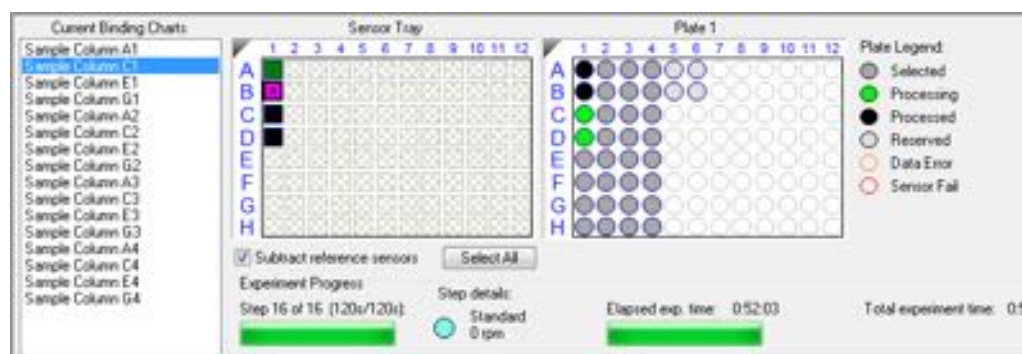

Figure 5-58: Subtract Reference Sensors check box in the Runtime Binding Chart
1. In the **Sensors to Chart** list or the **Sensor Tray**, right-click a biosensor and select **Reference** (see Figure 5-58).
The selected biosensor will be shown with an **R** in the **Sensors to Chart** list and **Sensor Tray** (see Figure 5-58).
2. Click the **Subtract reference sensors** check box (see Figure 5-58).